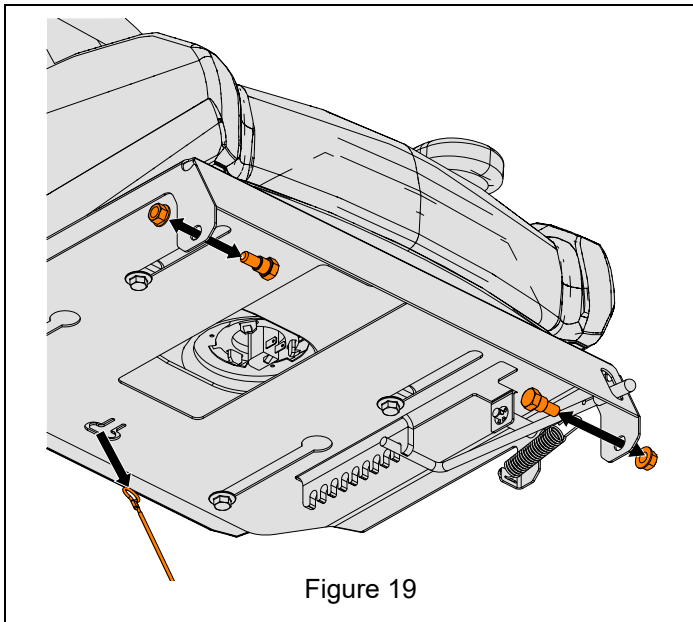

Figure 19
3. Remove and retain two hex bolts and two nyloc flange nuts from seat plate. Disconnect tether. See Figure 19.